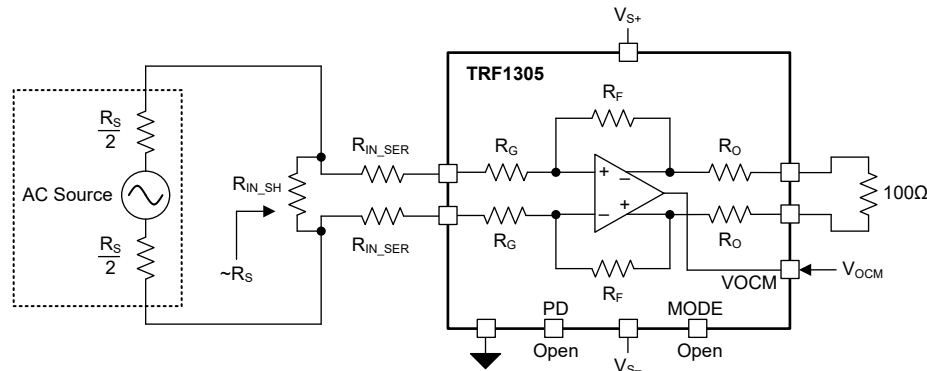

**Figure 8-8. Net DC Current Flow When Input and Output Common-Mode Voltages are not Equal**
The TRF1305x1 accept a wide range of input dc common-mode (CM) voltages. Take into consideration the dc current loading of the source when the TRF1305x1 is dc coupled at the input. Figure 8-8 shows that when the input CM voltage,  $V_{ICM}$ , is different than the output CM voltage,  $V_{OCM}$ , a net dc current flow from or to the source occurs. Equation 1 shows the relationship that the source or sink current,  $I_{CM}$ , has with the input and output CM voltages: